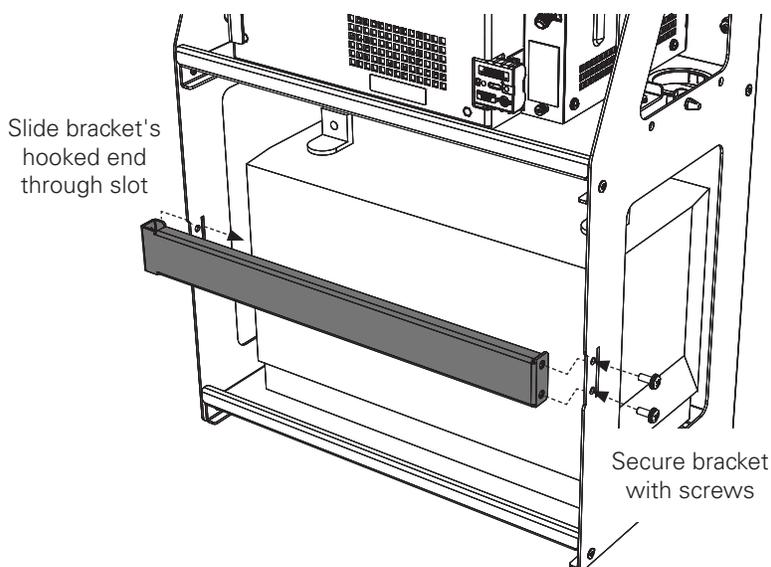

Fig. 12, Installing Battery Rack Bracket
8. Insert the battery on the bottom shelf. Install the battery shelf bracket by sliding the hooked end into the slot on the rack and securing the other end with two #10-32 × 1/2" screws (Fig. 12).